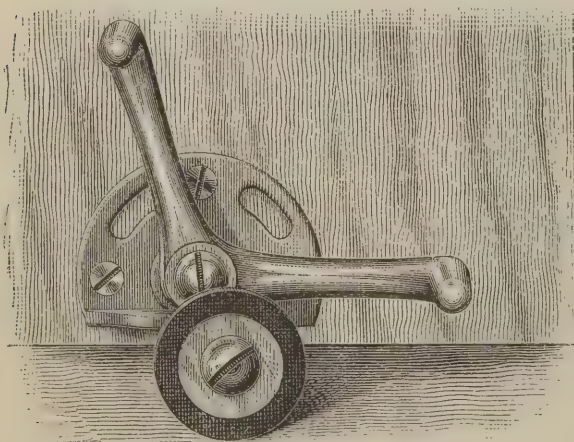

Fig. 5.—Walker's Patent Door Stop.
H. Walker & Co., 104 East Fourteenth street, Wilmington, Del., are putting on the market the sash-fastener and door-stop represented in the accompanying illustration, Fig. 4 showing the sash-fastener and Fig. 5 the door-stop. These articles are made under patents obtained by H. Walker. The sash-fastener, Fig. 4, is attached, it will be observed, to the top rail of the lower window sash in the right-hand corner. It has a lever by means of which the rubber roller is operated, and is to be so placed that the rubber roller will press against the center of each side piece of upper sash when the lever is placed in line with the top rail, as shown in the cut. The pressure on the sash thus locks it in any desired position. It will be seen that there is a
having the especial merit of combining in one the qualities of a stop, lock and anti-rattler, and the point is made that by its use the sash can be raised or lowered, or both, and securely fastened as desired, while at the same time by its compression of the sash in the frame it prevents it from rattling. Its applicability on houses and factories where no sash weights are used is also referred to. It will be seen that a similar principle is applied in the door-stop shown in Fig. 5. This door-stop is attached to the bottom of the door as shown in the cut, and when not in service swings freely without contact with the floor. It is worked as indicated by either of two levers which are operated by the foot. By bearing down firmly with the foot on the lower lever the roller brake is applied and the door securely held where desired, while by pushing the upper lever back until it strikes the stop on the base plate, the brake is taken off, the roller being raised from contact with the floor, permitting the door to swing as usual. These door-stops are made right and left hand to suit the direction in which the door opens. This door-stop is referred to as not only stopping the door at any desired point, but effectually holding it there against violent pressure, while it will also serve as a secure bolt when the door is closed. It is referred to as specially applicable to hotels and boarding-houses, where ventilation is often sacrificed to privacy, while it has advantages as permitting ventilation with security from intrusion, as a door can be fastened partially open. Both door-stop and sash-fastener are obviously easily applied. The ordinary pattern of the door-stop is designed for doors which do not swing higher than 1 inch from the level of the floor, while a special pattern is used for doors of higher swing. These articles are both made in malleable iron, japanned, and in brass, polished.